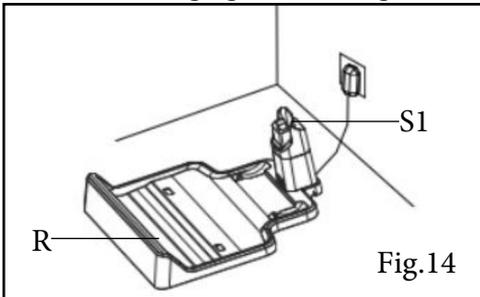
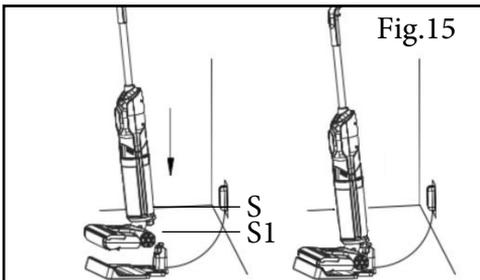

Fig.14
Fig.15
Remove the charging base (R) from the packaging and make sure it is intact, as is the supplied power cable (Y). Then connect the charger to an electrical outlet (Fig. 14) and insert its plug into its seat located at the bottom of the charging base (R). Next, align the charging seat (S) located at the bottom of the back of the appliance with the corresponding seat (S1) on the charging base (R) (Fig. 15).